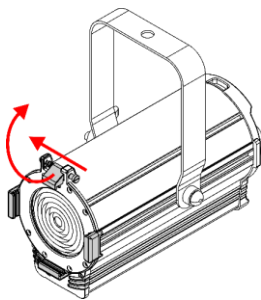

Fig. 10
- 01) Push the **spring-loaded screw (01)** and at the same time lift the **color frame clip (02)** and flip it backwards (see Fig. 10).